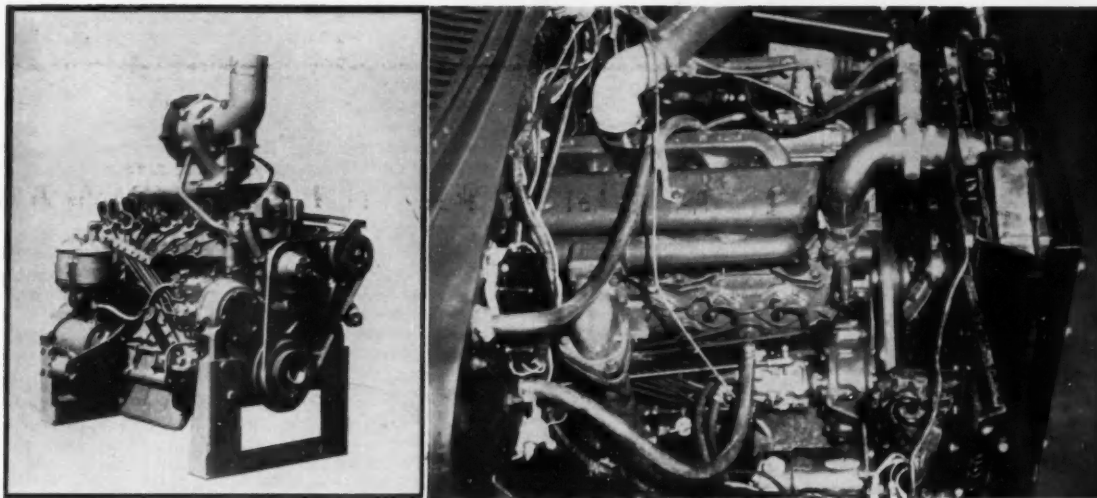

Fig. 1 — New IHC DT-282 turbocharged diesel (left), and (right) another member of IHC's new diesel family, the D-301, as installed in a highway truck.
Fig. 1 at the top of page 43 shows what is captioned as a carbureted engine. This is an unfortunate mis-labeling, since this is actually a view of one of the diesel engines described in the article as installed in a "cab-forward" truck and is clearly so described in the paper, 116T.
**OUR MISTAKE!** The picture on the right below was incorrectly labeled when it appeared on page 43 of the January SAE Journal . . . where it was part of Fig. 1 of the article "New Diesel Designs Geared to Manufacturing Economies" by IHC engineers A. F. Dewsberry, C. P. Bozos, and J. B. Reeves, Jr. . . . Below is the caption as it should have read: